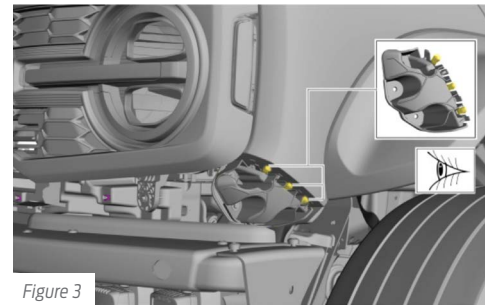

Figure 3
4. On both sides of the vehicle, inspect the side bracket for damage. [Figure 3]